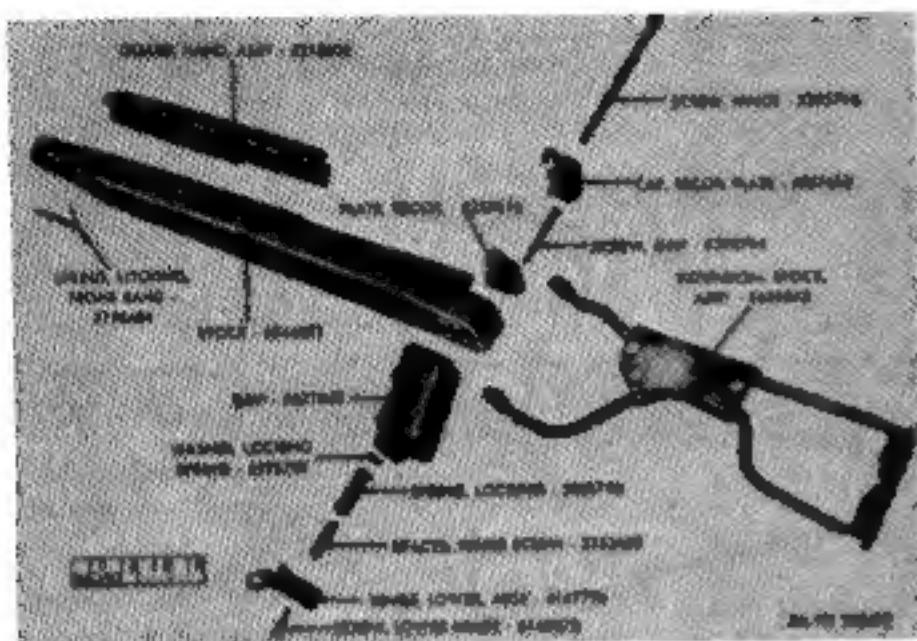

Figure 105. Stock assembly 6544072 and hand guard assembly 6212602 for carbine M1A1.
a. *Stock Extension (Fig. 105).*
- (1) Remove lower hinge screw from lower end of stock grip by turning counterclockwise.
- (2) With stock extension in extended position, unscrew the hinger screw projecting from the upper face of the recoil plate cap by turning counterclockwise. When screw is disengaged from the lower hinger nut, pull screw up and out of grip and then lift off recoil plate cap and lower hinge.
- (3) With flat-ended punch, push hinge screw spacer out of hole in the lock on end of lower bar up into coil spring. Then pull stock extension to rear from stock and remove grip spring, hinge screw spacer and trip spring washer from countersunk hole in lower end of grip. Take care that spring does not fly out or washer does not become lost.
- (4) Remove grip and recoil plate by unscrewing the grip screw counterclockwise from top of recoil plate.
m. Inspect cheek rest plate and retaining plate for deformation and looseness with each other on the bars when assembled. Inspect rivets for looseness and protrusion of heads. Inspect cheek rest cover for scoring and cracking of leather. Cheek rest plate should be held tightly to bars by retaining plate and rivets, and leather cover, on the stock extension assembly (Fig. 105), should be smooth, so it will not scrape face of operator.